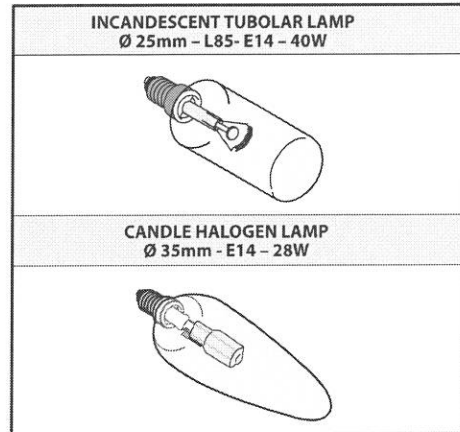

Fig.7
• **Replacing the halogen/incandescent lamps (Fig.7):**